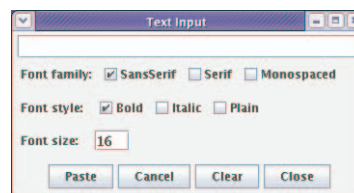

Figure 30. Text Input Window
2. Click on the text input tool  to open the Text Input window shown in Figure 30.